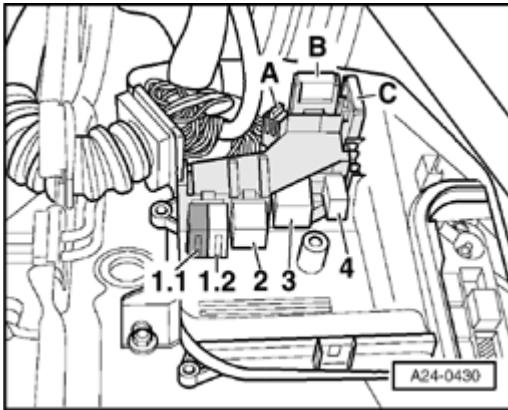

Fig. 630: Removing Motronic Engine Control Module (ECM) Power Supply Relay J271 From E-Box
- Component location. See **Fig. 630**